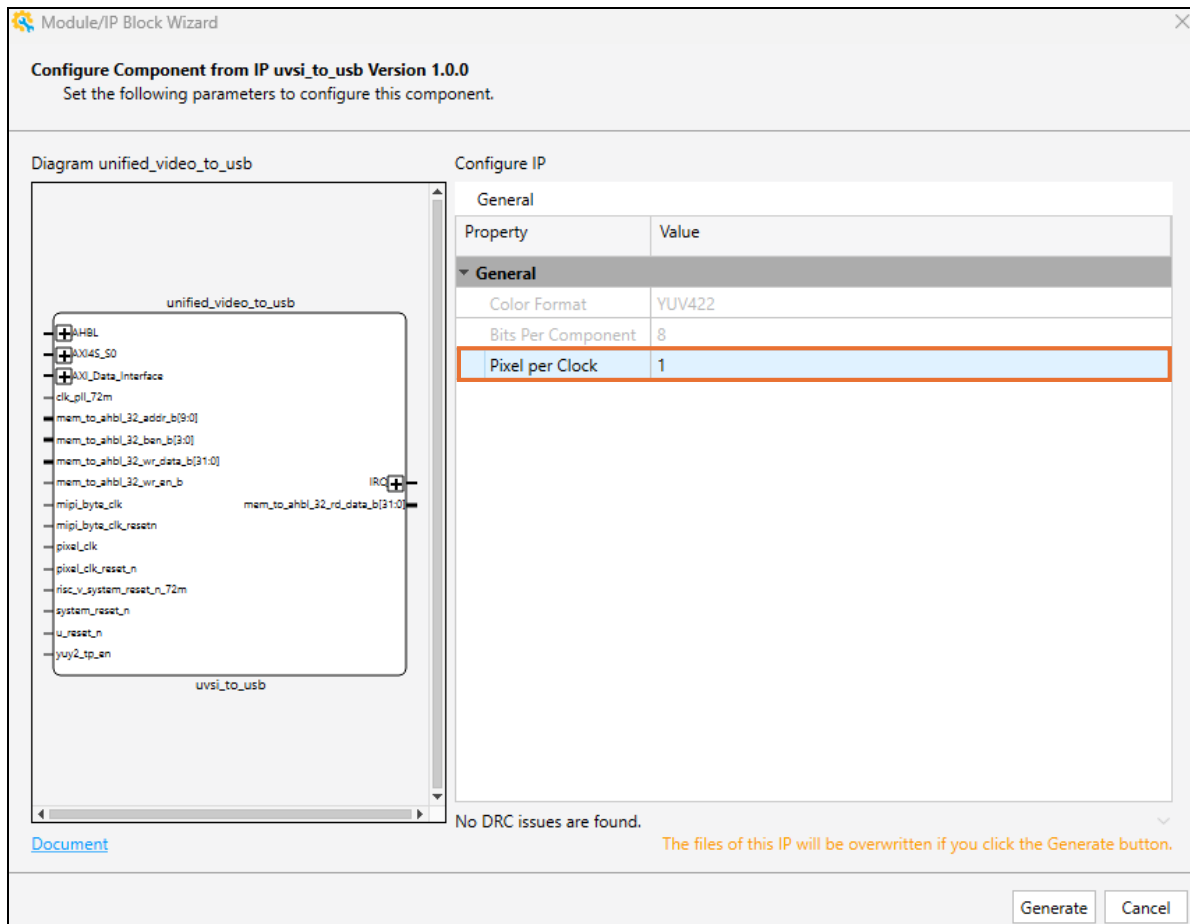

Figure 7.28. Video to USB Configuration
2. Under the **Input setting**, set the **Pixels per clock** to 1 (Figure 7.28).